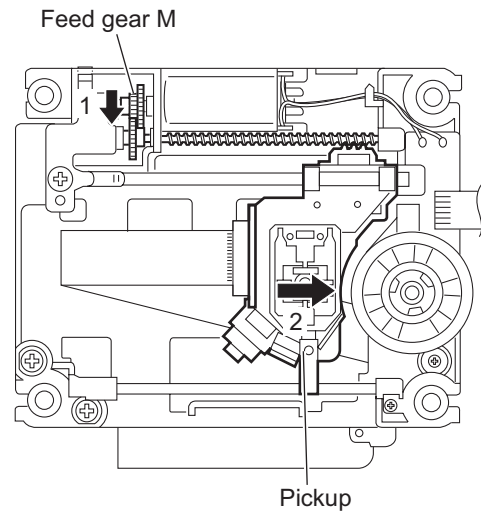

Fig.12
- (5) Turn the feed gear M in the direction of the arrow 1 to move the pickup fully in the direction of the arrow 2. (See Fig.12.)